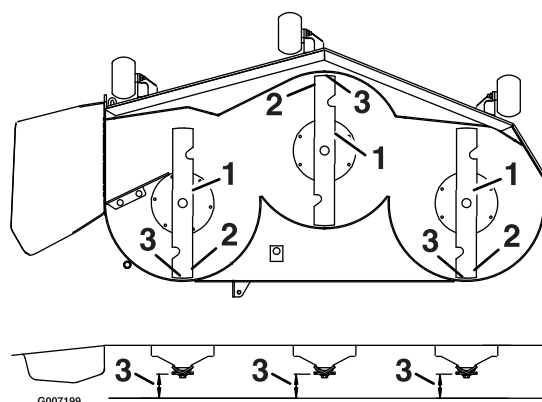

Figure 70
3. Carefully rotate the blades so they are facing front to rear (Figure 70).
4. Measure from the tip of the front blade to the flat surface and the tip of the rear blade to the flat surface (Figure 70). If the front blade tip is not 1/16-5/16 inch (1.6-7.9 mm) lower than the rear blade tip, continue to the Leveling the Mower Deck procedure.